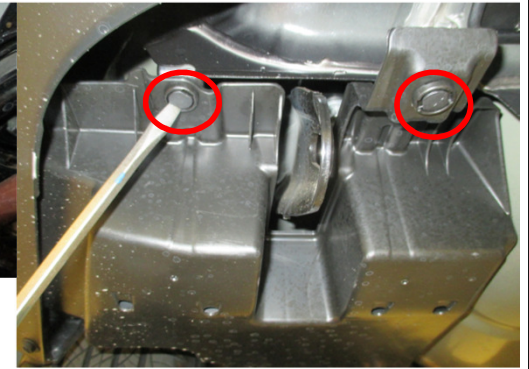

Figure 2
1. Driver side bottom plastic appearance panel removal - use flat head screwdriver and 10 mm socket to remove (2) plastic rivets and (1) flange nut from the panel, see Figure 2. Return to vehicle owner.